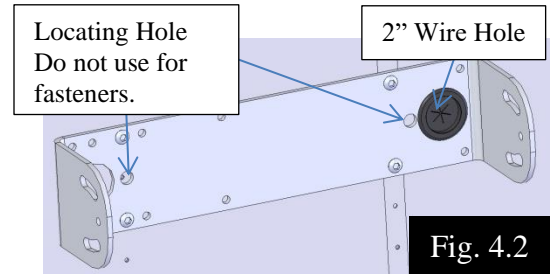

Fig. 4.2
3. Line up the 5/8" hole in the inner bracket with the mark made in step 1. Refer to the figure 4.2.
9. Drill a 2" hole in the nose of trailer using the hole in bracket as a guide. This will be used for motor wire to pass through. See Fig. 4.2